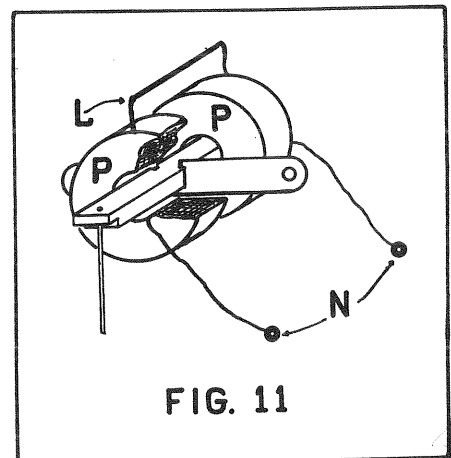

FIG. 11
11. Disassemble the motor by removing the two countersunk screws. One of these screws "K" is shown in Figure 2. The coils are then accessible, but the armature is still in position in the center of the coils. Figure 11.
1. Place the coils "P"- "P", Figure 11, in proper position around the armature. The small length of wire connecting the two coils in series should be at the outside of each coil when assembled, "L", Figure 11.